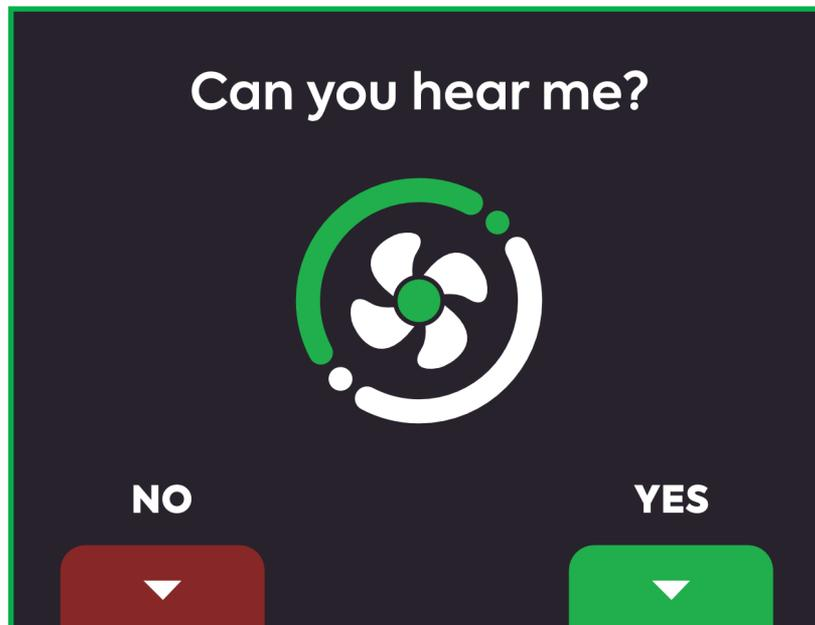

FIGURE 13
5. The identification procedure starts by automatically turning the compressor on and off multiple times. This verifies that the console you are trying to pair with, it the correct unit. When you hear the console, you can confirm pairing the controller. (Figures 13, 14)